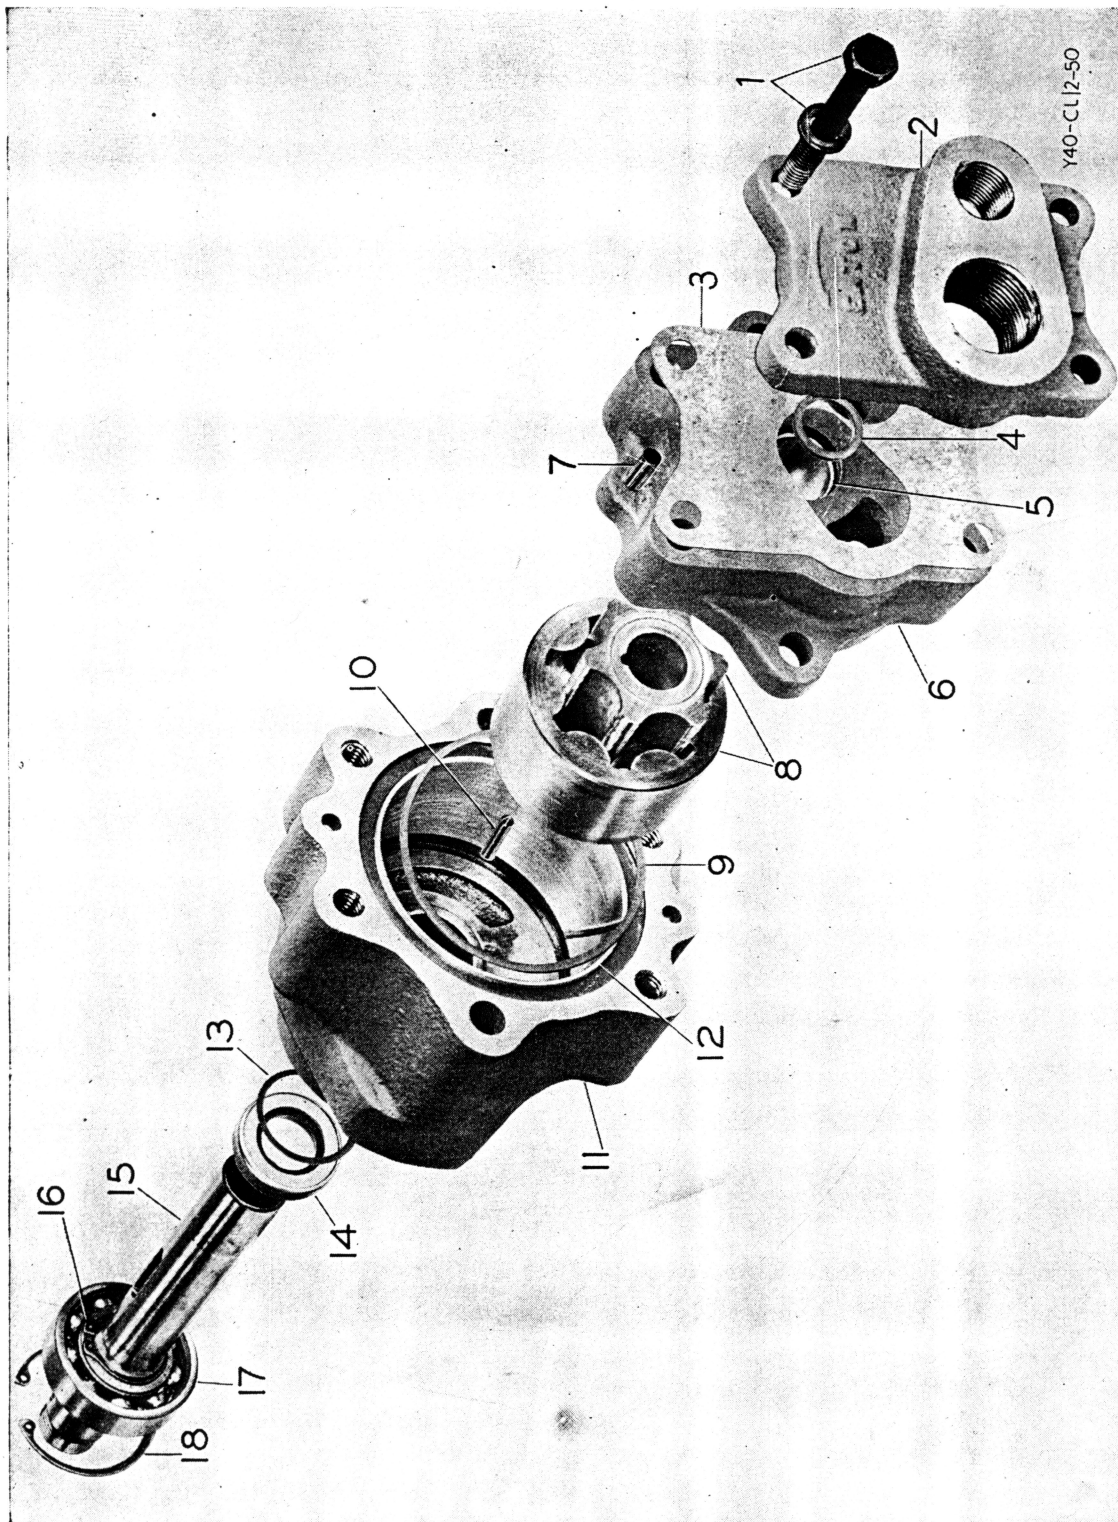

Fig. 108
Disassembly of the pump consists of removing four cover screws (Fig. 108, reference —), with lockwashers. Tap edge of cover and adapter lightly to free dowels (7) and cover (6) and remove the adapter (2), gasket (3), "O" ring (4) and cover (6) following which the rotors (8) will slide from shaft (15). Remove rotor to shaft key (10) and lift off cover to body gasket (9). Remove the bearing retainer ring (18) that locks the shaft and bearing (17) to body (11) then remove the shaft and bearing assembly as a unit. Using a suitable tool, remove the snap ring (16) from the shaft and press bearing from shaft using an arbor press.
To remove the body bushing use a hammer and cold chisel with a flat point similar to a screwdriver or other suitable tool. Hold the chisel at an angle inward at a point near the split in the bushing and tap firmly to collapse the bushing toward the center of the pocket. (See Fig. 108). Following the opening of the bushing as shown in Fig. 108, use a large screwdriver to finish collapsing the bushing toward the center. The bushing will now drop out. Care must be exercised during removal to avoid scoring the wall of the pocket. Following removal, inspect wall for score marks or burrs and if these are present, remove same before installing new bushing. Lubricate wall of bore and position new bushing into open-
(See Fig. 108)
When reassembling the pump it is important that all parts are clean. Do not wipe parts with cloths. Use new gaskets whenever pump is serviced. Assemble the retaining ring (Fig. 108, reference —) on the shaft in the groove. Using an arbor press, press the bearing (17) on the shaft. Insert shaft (15) through seal (14) into body (11). Using proper tool or a pair of long nosed pliers, insert the ball bearing to body retaining ring (18) into the groove to lock the ball bearing and shaft into body. Place the drive key (10) into keyseat and slide on rotor. Lubricate the inner and outer rotor (8) and assemble the outer rotor into place. Install the body to cover gasket (9) in the groove and align body to cover so that dowel pins (7) align with holes in body. Place a new gasket (3) and "O" ring (4) into cover and